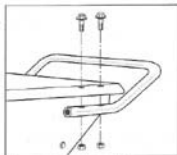

Figure 2-5: Install handlebar.
B. Position the handlebar with the bend upward (see Figure 2-5).